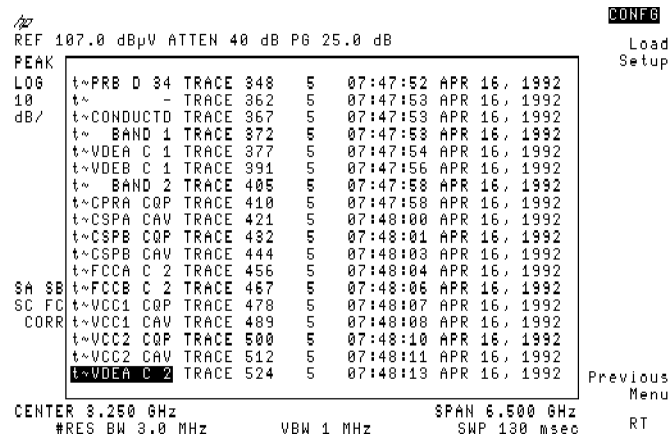

Figure 3-18. VDEA C 2 Selected
3. Press **Setups**. Scroll down to **VDEA C 2** and highlight the setup file. See Figure 3-18